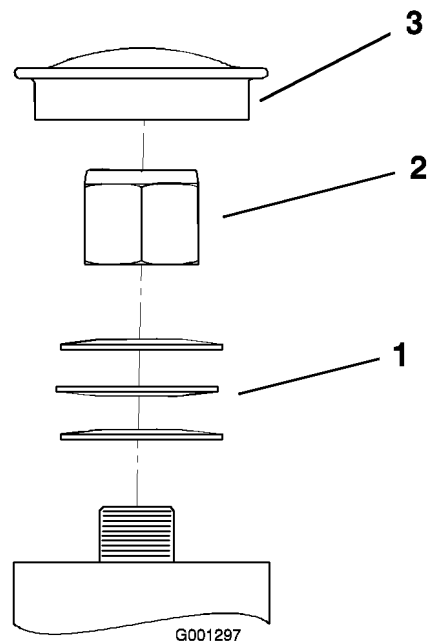

Figure 42
- Remove the dust cap from caster and tighten lock nut (Figure 42).
- Tighten the locknut until the spring washers are flat and then back off a 1/4 turn to properly set the pre-load on the bearings (Figure 42).
Important: Make sure spring washers are installed correctly as shown in Figure 42.
- Install the dust cap (Figure 42).